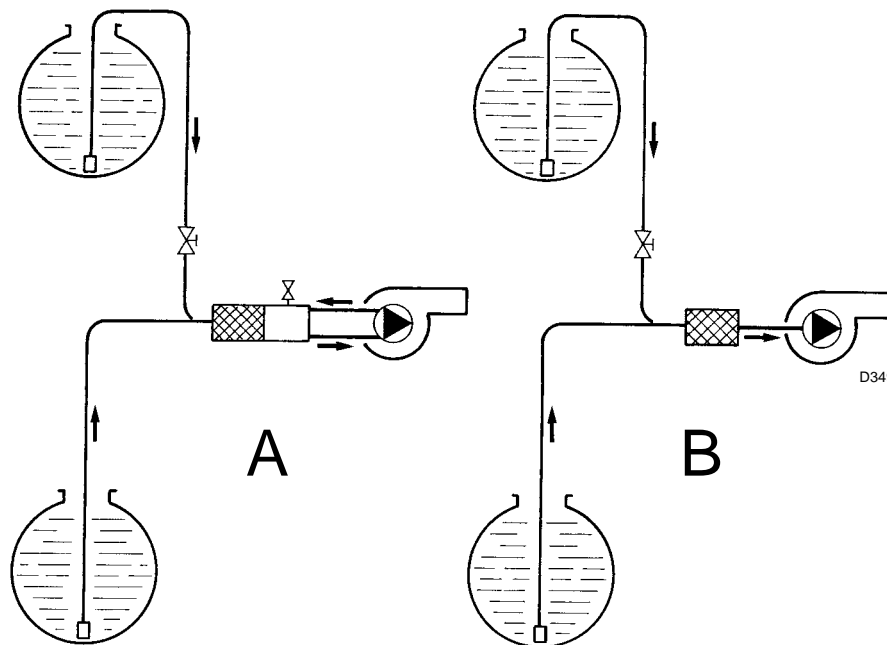

Fig. 19
- Pump external bypass (A, Fig. 19) (recommended)
- Pump internal bypass (B, Fig. 19)
- The pump is equipped with a bypass that connects return line and the suction line. The pump is installed on the burner with the bypass closed by screw 6) (Fig. 32 on page 31). When single-pipe fuel supply systems without degaussing units (Fig. 19 on page 21) are used, this screw, accessible from the connector 2), must be removed. In this way, the excess in the delivery discharged by the pressure regulator into the return line passes into the suction line. The pump will break immediately if it is run with the return line closed and the bypass screw inserted.